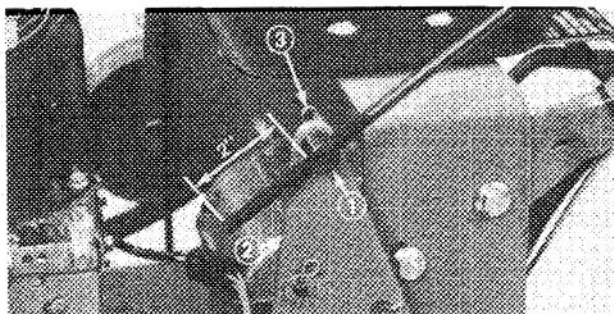

Figure 4
1. Thread a rod fitting onto each control rod approximately 2" (Fig. 4).
2. Insert rod fitting ends into mounting holes in idler brackets (from outside) and secure with washers and hairpin cotters (Fig. 4).